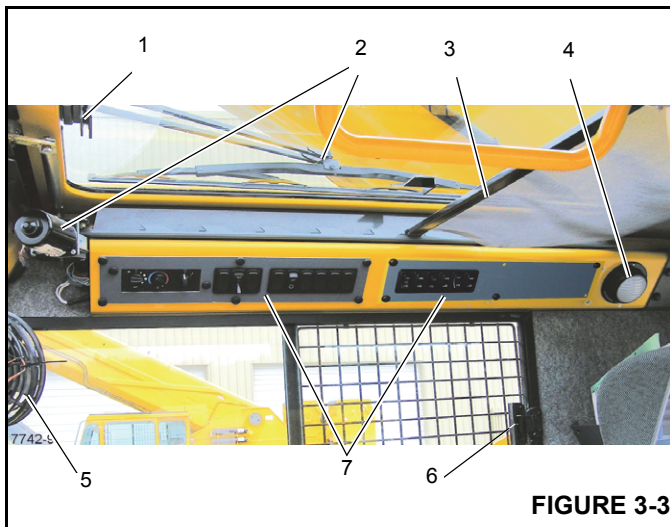

FIGURE 3-3
The Skylight Window Latch (1, Figure 3-3) is at the front of the window. Squeeze the latch and slide the window to the rear to open. To close, slide the window forward until the latch engages.
The Skylight Wiper (2, Figure 3-3) is controlled by the wiper switch, (4) (Figure 3-4), and operated by the Wiper Motor.
The Skylight Sunscreen (3, Figure 3-3) is used to diminish direct sunlight. The sunscreen is self retracting and can be set to screen all the light or adjusted rearward by moving it into the notches provided.
The cab Dome Light (4, Figure 3-3) is on the right rear corner of the cab overhead console and provides illumination in the cab. The dome light is controlled by a switch on the light.
The Cab Circulating Fan (5, Figure 3-3) is located on the left front side of the cab, above the window frame. A swivel allows the fan to be rotated and a switch on the fan base controls the fan. The switch has a high, low and off position.
The window on the right side of the cab can be opened. Squeeze latch (6, Figure 3-3) to release the window and slide forward. To close, slide the window rearward until the latch engages.